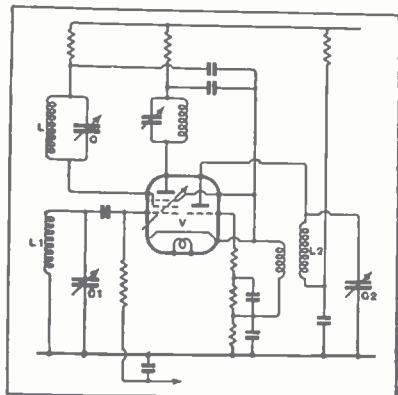

Fig. 1.
**Suppressing Image Frequencies.** In the circuit of Fig. 1, the image rejector, LC, is connected to one grid of the mixer, V. The signal input circuit, L1C1, and the oscillator, L2C2, are connected to the other grids so that they are electronically coupled. The three circuits are gauged together; thus the rejector circuit is made effective at all settings of the tuning control. (British Patent No. 463070)